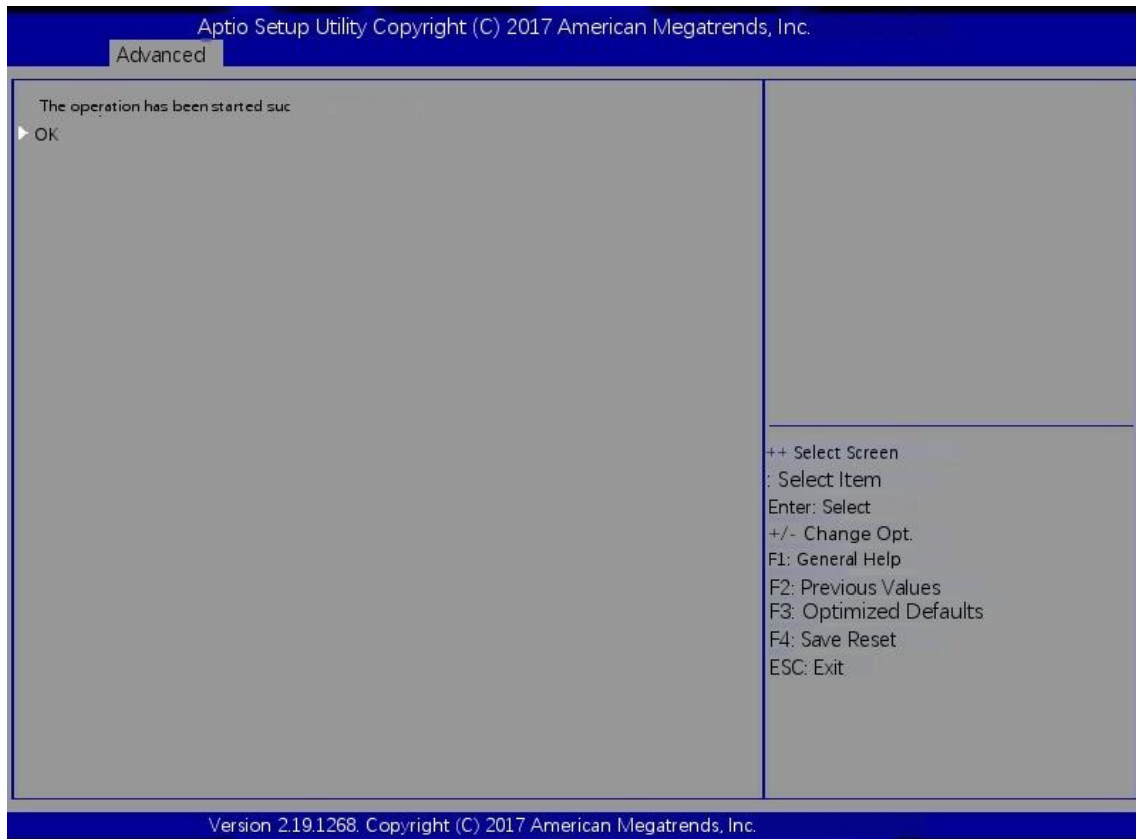

Figure 6-67
- g) Enter the interface shown in figure 6-67 to complete the operation of erasing logical disk data.